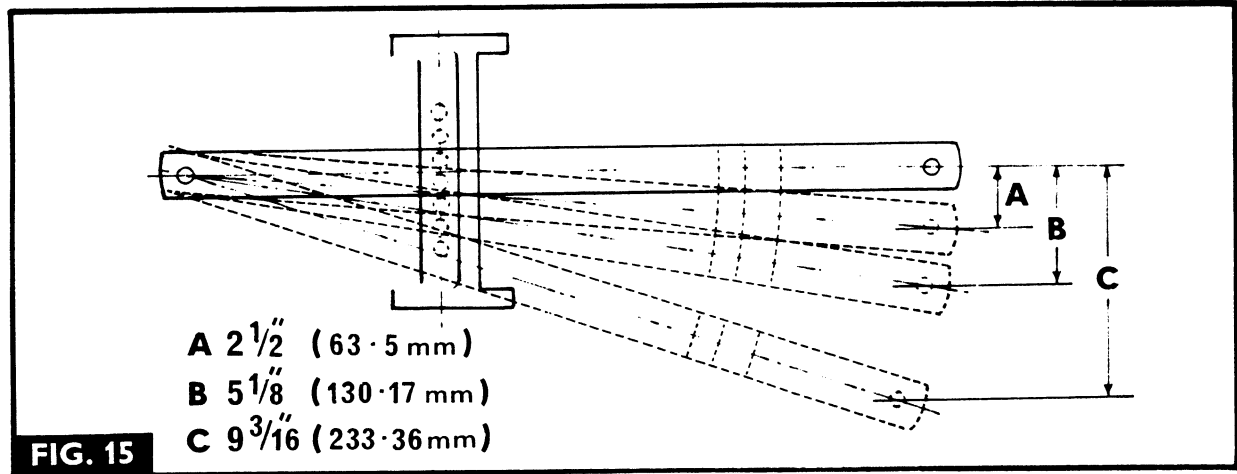

FIG. 15
5. Fig 15. Slide the drawbar assembly (40) into the mounting frame (38), fitting the drawbar pin (42), the locating pins (36) and the hairpins (39).
6. Place the mounting frame and drawbar assembly on a jack and raise it into position secure it with the front support pin (43) and the rear pin (37), securing them with a linch pin (41).